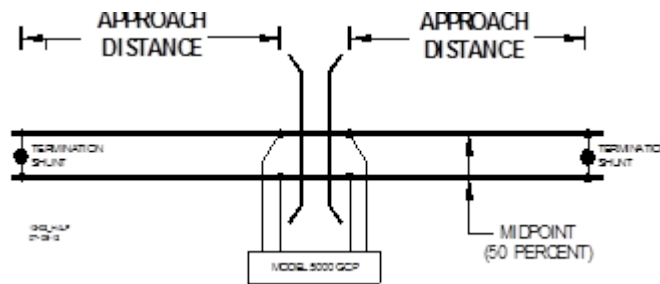

Figure 5: Midpoint Location (See Step 6 below)
Step 23	If the Linearization Steps value for the second approach (Figure 6, step 21) is greater than or the same as the Linearization Steps value recorded for the first approach (Figure 5, step 9), go to step 31. If the Linearization Steps value for the second approach (Figure 6, step 21) is less than the value recorded for the first approach (Figure 5, step 9), go to step 24.
Step 29	Enter the computed approach distance value recorded for the first approach (Figure 5, step 5) into the New Value field using the keypad numbers and select ENTER . <ul style="list-style-type: none"> The entered value appears on 2) Approach.